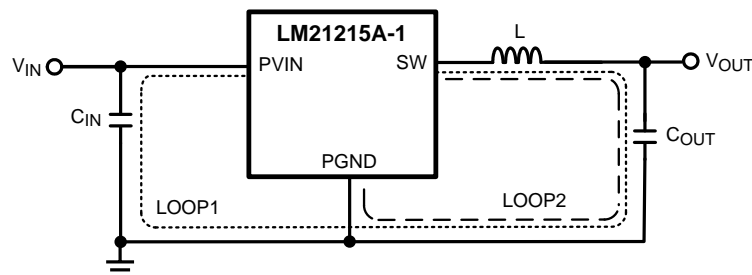

Figure 39. Schematic of LM21215A-1 Highlighting Layout Sensitive Nodes
1. Minimize area of switched current loops. In a buck regulator there are two loops where currents are switched at high slew rates. The first loop starts from the input capacitor, to the regulator PVIN pin, to the regulator SW pin, to the inductor then out to the output capacitor and load. The second loop starts from the output capacitor ground, to the regulator GND pins, to the inductor and then out to the load (see Figure 39). To minimize both loop areas, the input capacitor should be placed as close as possible to the VIN pin. Grounding for both the input and output capacitor should be close. Ideally, a ground plane should be placed on the top layer that connects the PGND pins, the exposed pad (EP) of the device, and the ground connections of the input and output capacitors in a small area near pins 10 and 11 of the device. The inductor should be placed as close as possible to the SW pin and output capacitor.